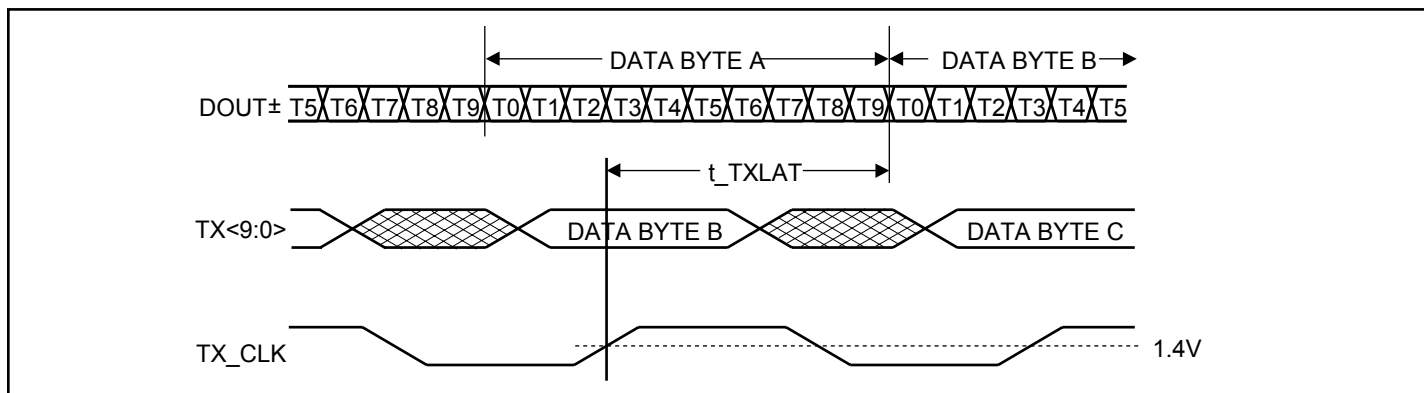

Figure 4. Transmitter Latency
1. The transmitter latency, as shown in Figure 4, is defined as the time between the latching in of the parallel data word (as triggered by the rising edge of the transmit by clock, REFCLK) and the transmission of the first serial bit of that parallel word (defined by the rising edge of the first bit transmitted).